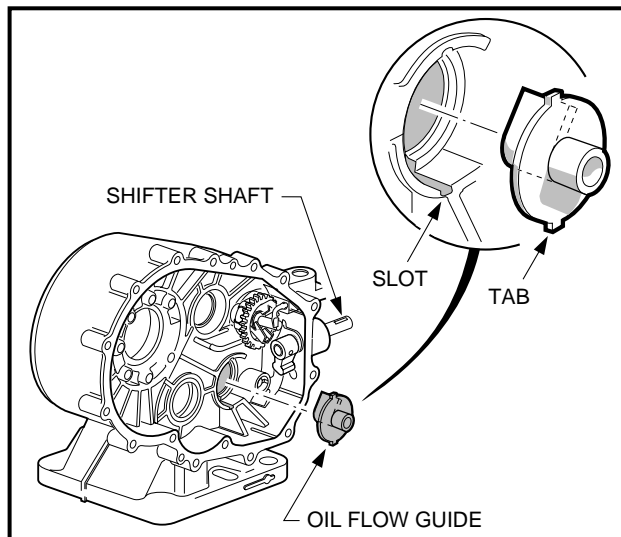

Figure 16-45 Oil Flow Guide
- Remove the oil flow guide from the case (**Figure 16-45, Page 16-18**).
16. Remove the shifter shaft and oil seal from the case (**Figure 16-45, Page 16-18**).